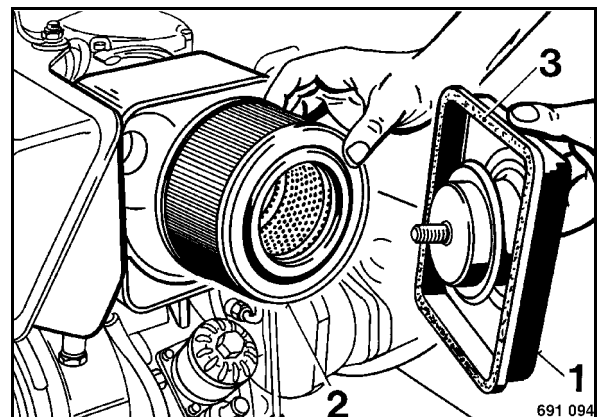

Fig. 82
- Insert the filter cartridge (2) (Fig. 82).
- Check the sealing face (3) on the housing.
- Attach the cover (1) and tighten it with the wing screws.